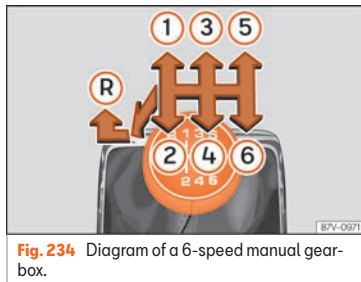

Fig. 234 Diagram of a 6-speed manual gearbox.
Gear positions are indicated on the gear lever » **Fig. 234**.
- With the gear lever in neutral, push it down, move it all the way to the left and then forwards to select reverse gear » **Fig. 234** .